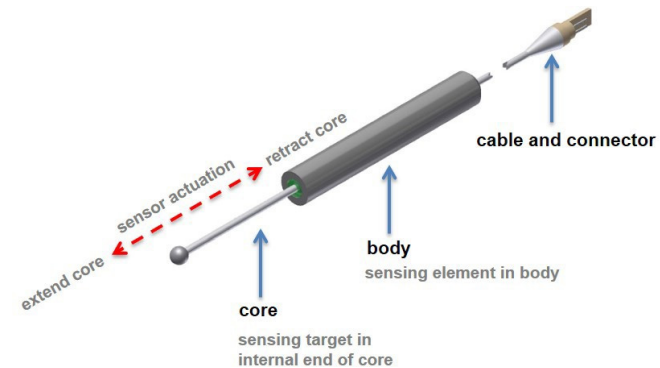

Figure 2. Contact-type Sensor Actuation
There are many sizes of sensors available and mounting options for each. The two basic types of LORD LVDT displacement sensors are contacting and non-contacting (Figure 2 and 3). Contact sensors have a sliding core that moves in and out of the sensor body. These are available as a non-Gauging type with a free floating removable core and no contact ball on the tip. The Gauging option has a captive spring loaded core with a ball contact tip. Non-Contact (NC) sensors do not have a core, and sense the distance to a metallic target. NC sensors work with ferrous and non-ferrous conductive target material.